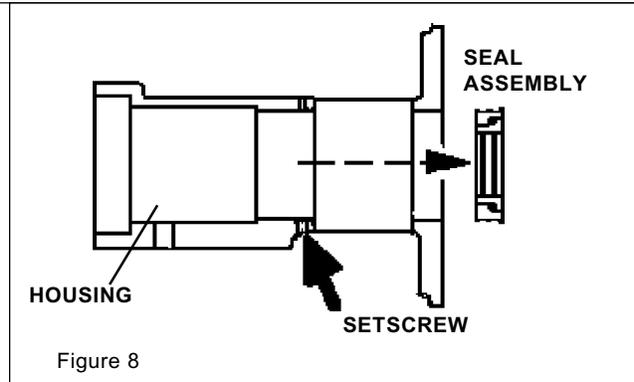

Figure 8
5. Using an 1/8" hex wrench, loosen set screws (opposite the grease fittings in the adapter or end cap) and the impeller end of the bearing housing. Remove the outer seal ring assemblies: (Remove the inner seal ring and O-rings.) (Figure 8 and Figure 9).